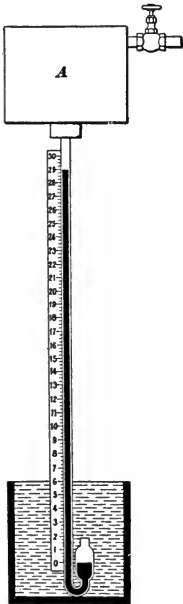

FIG. 16.
which there is a partial vacuum is measured by the height to which a mercurial column in a vertical tube, whose top is connected to the vessel, will rise under the pressure of the atmosphere. Thus, when we say that there is a vacuum of 29 inches in a vessel, we mean that enough air has been exhausted from the vessel to enable the surrounding air to support a mercurial column 29 inches high, as shown in Fig. 16, where *A* is the vessel in which there is a partial vacuum. In other words, the pressure in the vessel is less than the pressure of the atmosphere by a column of mercury 29 inches in height.
**47. The Vacuum Gauge.**—For engineering work, the glass tube of Fig. 16 would be a rather inconvenient form of gauge for measuring the vacuum. Hence, special metallic gauges, known as **vacuum gauges**, have been designed. Their dial is graduated to show the degree of vacuum, in inches of mercury. In steam-engineering work, they are used chiefly in connection with condensers for steam engines. It should be borne in mind that a vacuum gauge does not indicate the pressure in the vessel to which it is attached, but instead shows, in inches of mercury, how much the pressure has been *lowered below the atmospheric pressure*. In this respect a vacuum gauge differs essentially from a **pressure gauge**, which shows how much the pressure has been *increased* either above the pressure of a perfect vacuum, which is zero, as in case of a gauge registering the pressure of the atmosphere, or above the atmospheric pressure, as in case of the ordinary pressure gauge.